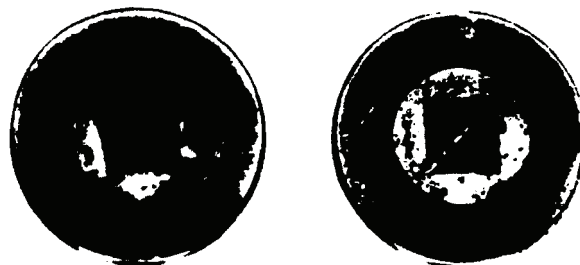

Figure 42.
- (1) Large ends of rollers worn flush to the recess, or the radii at the large ends of the rollers worn sharp. Refer to Figure 42.